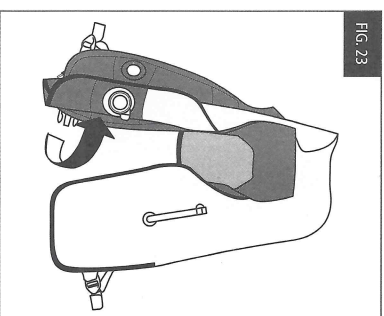

FIG. 23
3. Fold the inside edge back towards the outside of the PFD, so that the inflator is now sitting on top (Fig. 23). Pass the pull handle through the button hole and secure the ends in the stretch tabs.